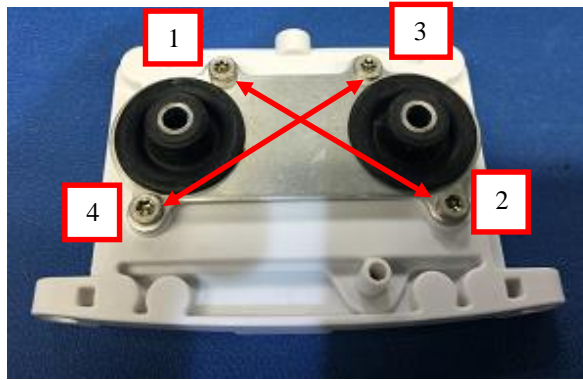

Figure 6: Torque the screws to 6 in-lbs.
1. To replace the filter body housing, place the Overmolded mount on top of the filter body housing. Torque the four screws to 6 in-lbs. in the following order (Figure 6).